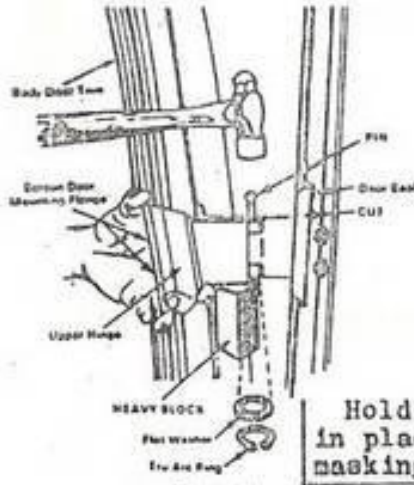

Figure 9
9. Remove upper hinge pin with care, install screen door hinges with motorhome hinges and insert new pin supplied. Support bottom of hinge with steel block and drive pin just enough to have free movement of screen door hinges. Place flat washer and true arc ring on bottom of pin compressing against hinges for a snug fit. (See Figure 9).
10. With door open move screen door hinges against post and check for alignment. Screen door mounting flange of hinges (see fig. 9) should be parallel to post. It may be necessary to bend screen door hinges. Cut motorhome door seal to clear screen door hinges. Close entrance door a few times to check for interference. (See Figure 9). Install bottom hinge as above.